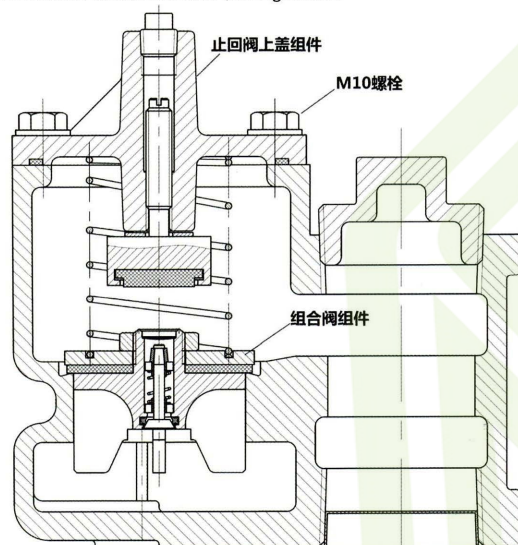

Figure 21 Packer with Functional Element
When greater flow rates are needed, two pumps may be installed in the same piping system by means of a manifold. If installed according to the Figure 21, tandem systems offer backup support so operation can continue if one pump stops working.
2. Back out the electrical connector disconnect bolt (see Figure 21)